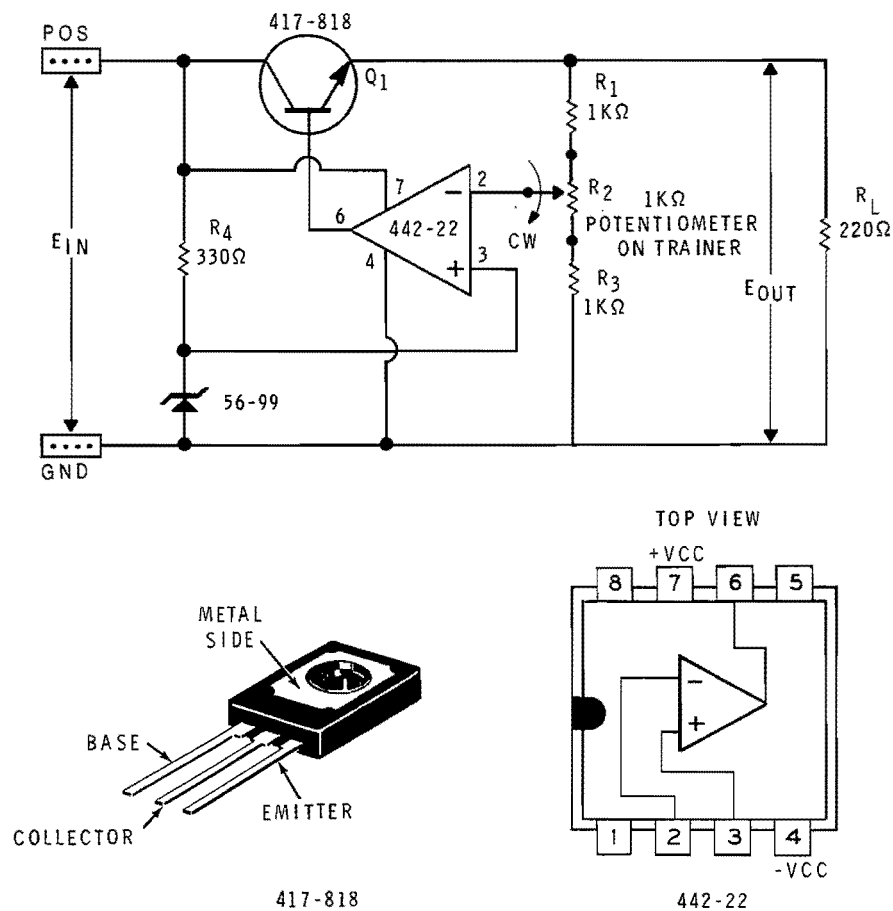

Figure 4-49
31. With the Trainer turned off, construct the circuit shown in Figure 4-49. Set the "+" VOLTAGE control to minimum.